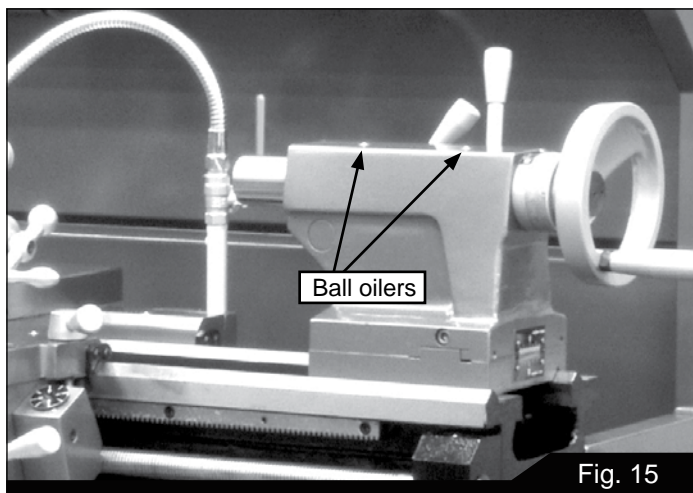

Fig. 15
5. Tailstock – Daily lubricate two ball oilers (Figure 15) on top of tailstock.